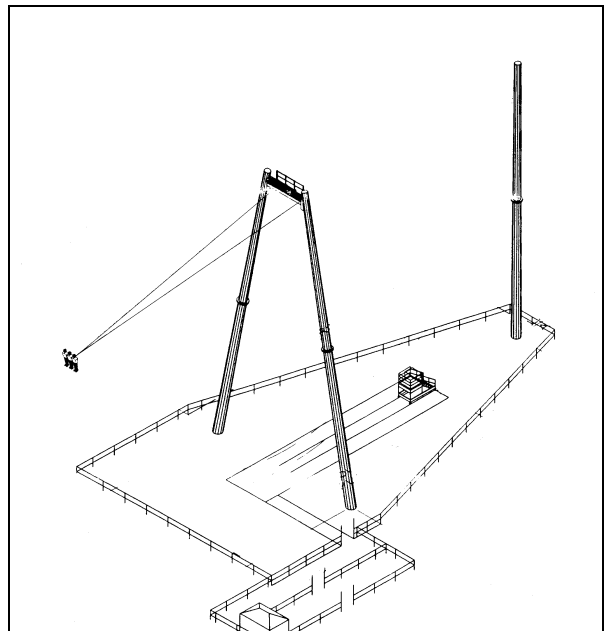
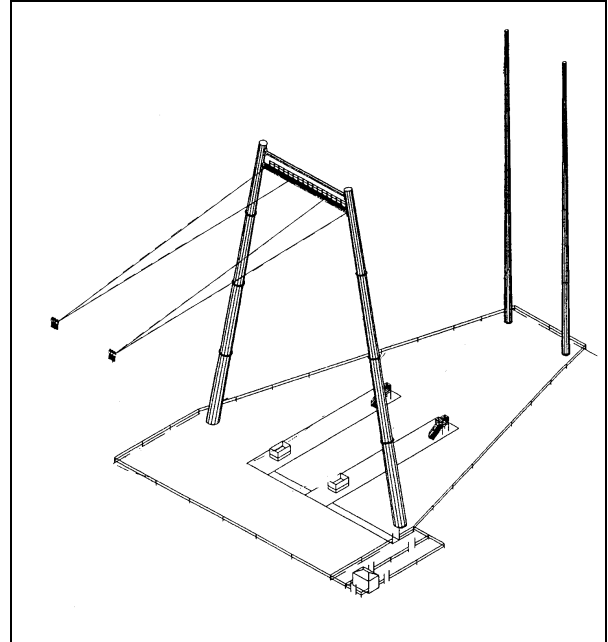

Figure 1 Single Skycoaster® (Monopole towers)
Figure 2 Dual Skycoaster® (Monopole towers)
The various Skycoaster® areas are illustrated in Figure 1 and Figure 2 and are explained in *Section 1.3 - Definitions*.
- A. The A-Frame flight tower, Figure 1, consists of two steel towers, canted slightly towards one another, joined at the top by a steel bridge assembly. Attached at the bridge are the flight brackets, which in turn tether the two flight cables and single counterweight cable. Standard flight cables are 5/16 inch (7.9 millimeters), made of galvanized or stainless steel, each capable of supporting 9800 lbs. (4082 kilograms)/9000 lbs., (4445 kilograms) respectively. Connected to the counterweight cable are the counterweight and the flyer-attachment end of the launch cable.
- A. The dual Skycoaster®, Figure 2, uses two launch towers, allowing double capacity as two separate flight systems are installed.